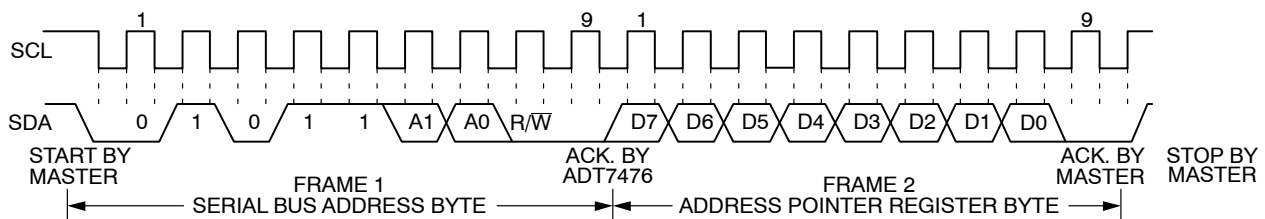

Figure 19. Writing to the Address Pointer Register Only
1. If the ADT7476's address pointer register value is unknown, or not the desired value, then it must first be set to the correct value before data can be read from the desired register. This is done by performing a write to the ADT7476 as before, but only the data byte containing the register address is sent, because no data is written to the register (see Figure 19).